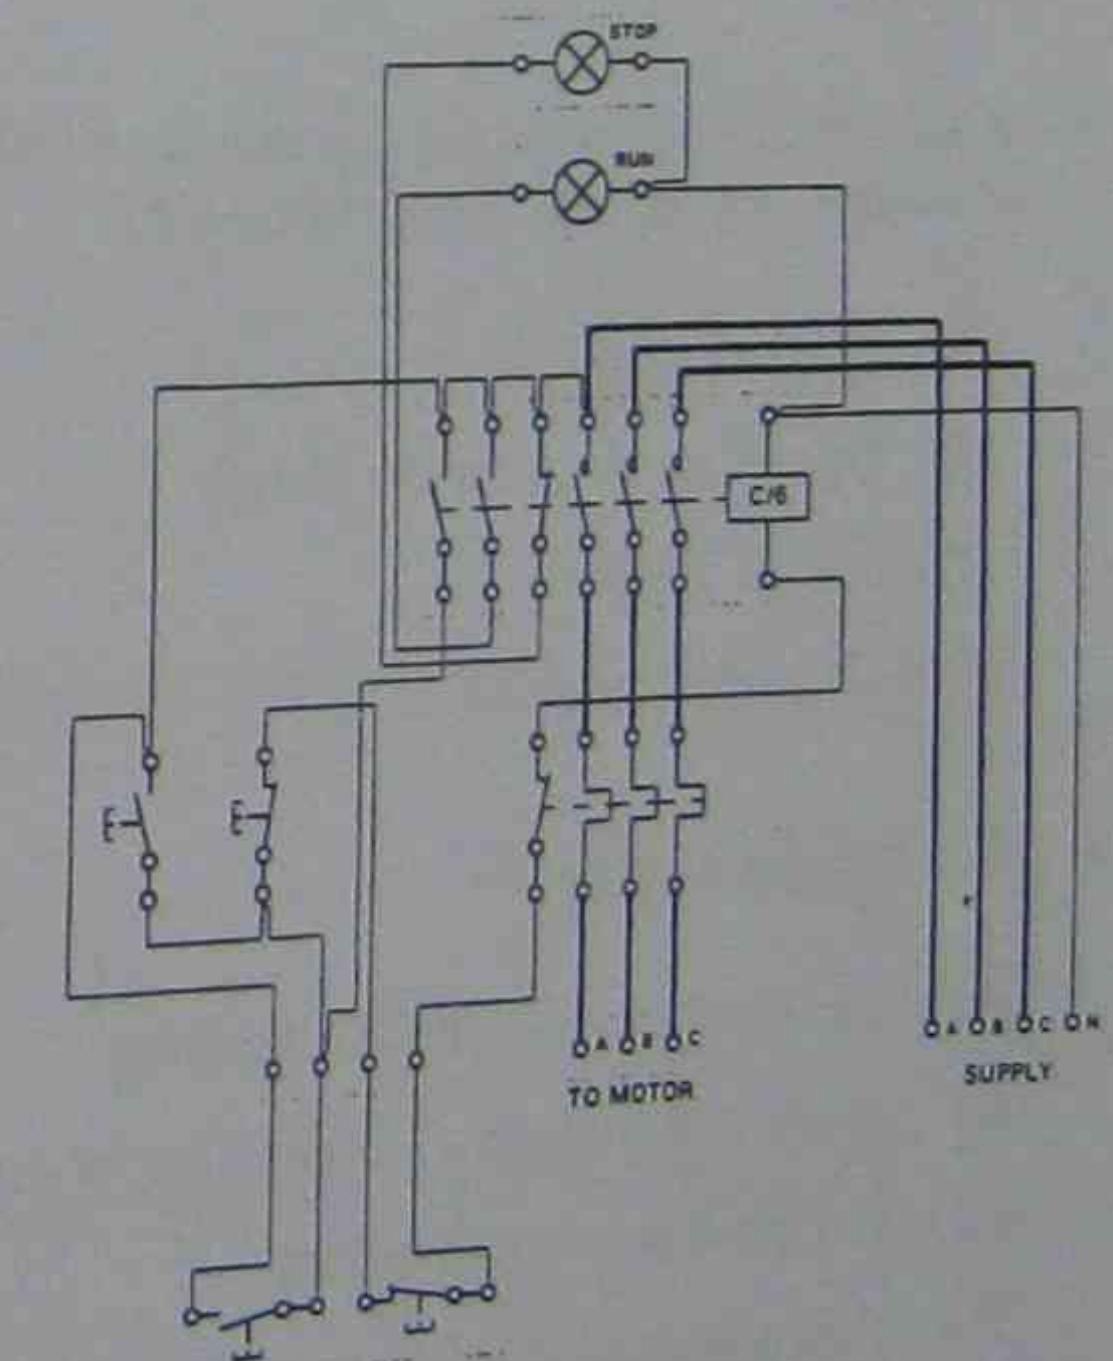

Figure 2
- The electrical diagram shown in Figure 2 is an example of: the